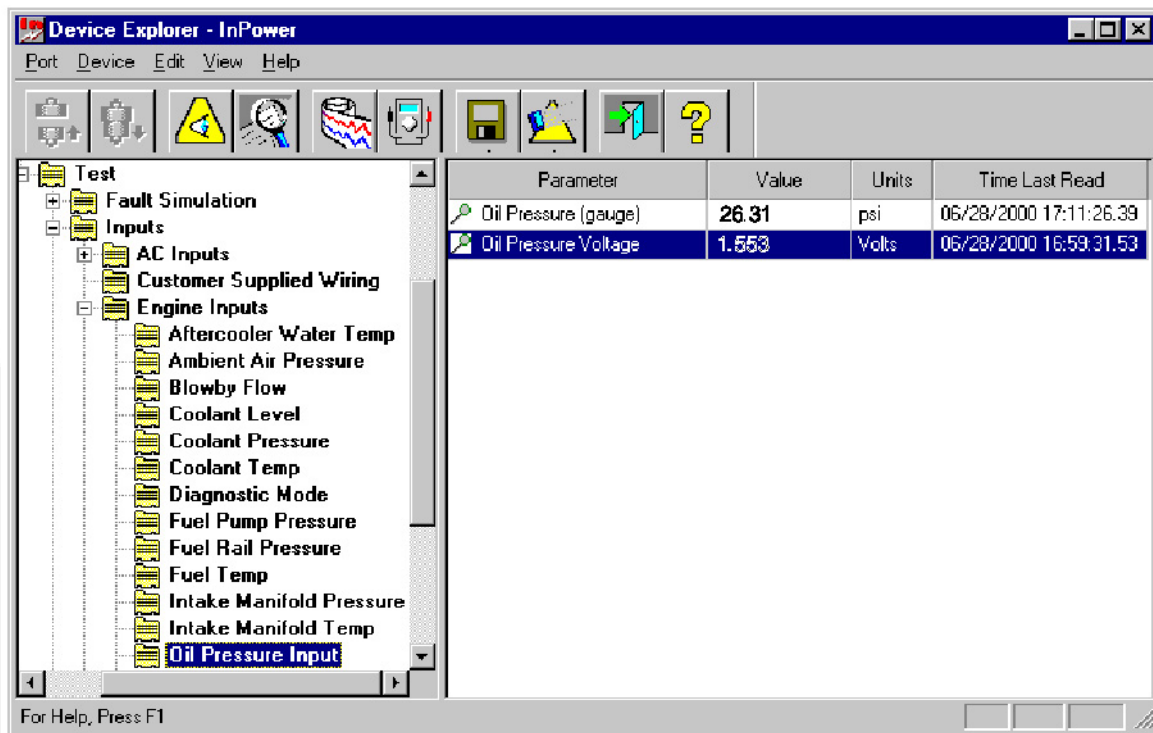

FIGURE 45. TEST - INPUTS - OIL PRESSURE
**Figure 45** shows the results when an input voltage is present, in this example the oil pressure (approximately 26 psi) is displayed in InPower, and should also be displayed in the Operator Panel display.